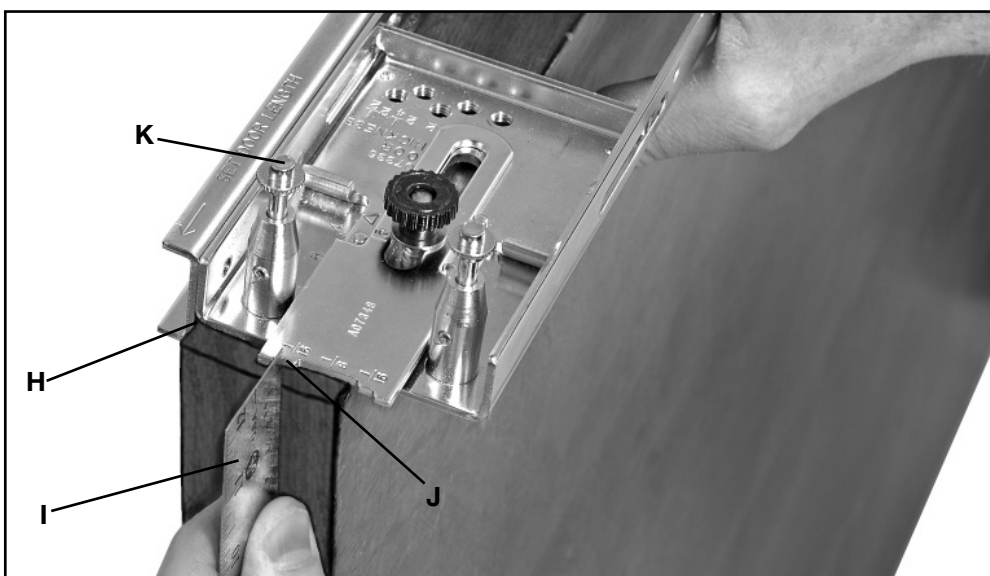

Fig. 3
- Set the left template section on the top edge of the door on the left and snug template edge (H) Fig. 3 against door. Place straight edge (I) on left edge (top) of door and slide the template over until the end gauge 1/16" step (J) is against straight edge (I). Drive nails (K) into door.